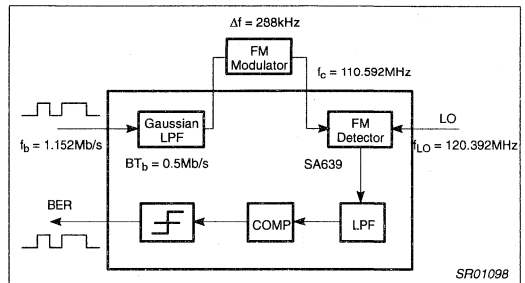
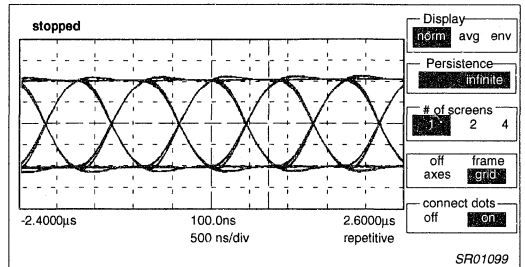
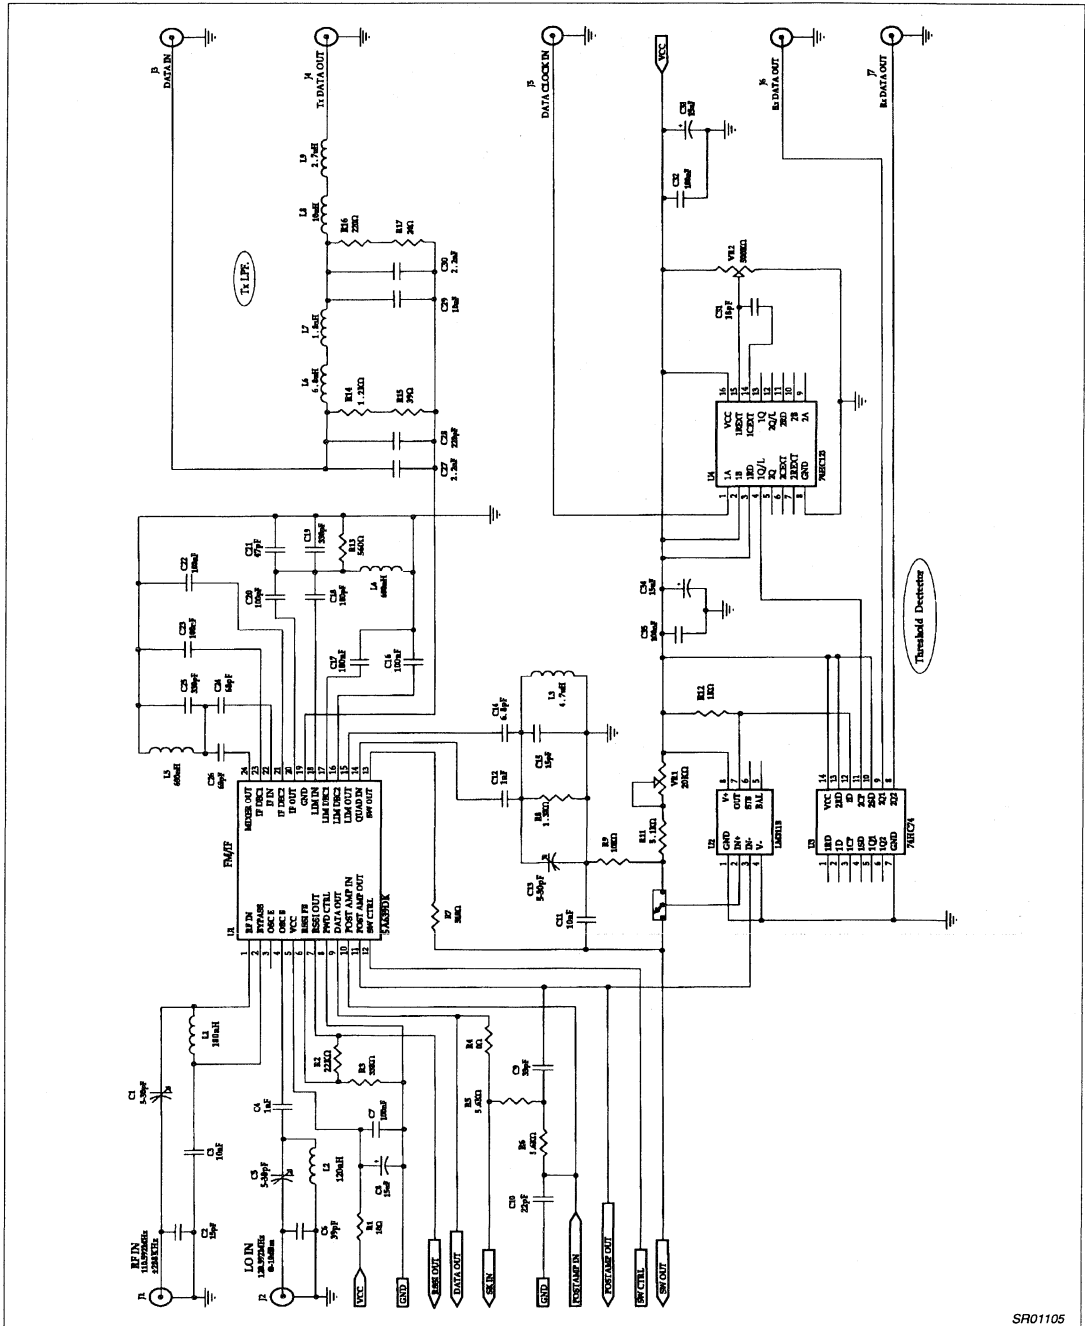

Figure 7. Structure of the SA639 GFSK Evaluation Board
Figure 8. Measured Eye-Diagram at the Output of Tx Gaussian LPF
Figure 14. Schematic
A SA639-based evaluation board has been developed based on DECT specifications. The structure of this board is illustrated in Figure 7 together with a VCO/FM discriminator based GFSK modem (modulator/demodulator). The demo board contains the entire demodulator as well as the Gaussian low-pass filter (LPF) for the modulator. The DECT modulated signal, therefore, can be generated either by a standard DECT signal generator, or by sending a 1.152Mb/s data stream to the on-board Gaussian LPF (BTb = 0.5), then applying the filtered base band wave form to a FM signal generator with a modulation index of 0.5. The output is then the GFSK modulated signal (DECT). The schematic of the Gaussian LPF can be found in Figure 14. Baseband eye-diagram at the output of the Gaussian LPF is presented in Figure 8.
- Check the DC reference for the comparator: set the reference voltage at the DC level of the op. amp. output by adjusting VR1 in Figure 14.
- Adjust sampling position: set the up edge of the clock at pin 11 of 74HC74 to be at the center of the eye-diagram at pin 2 of LM311B by adjusting VR2 in Figure 14.